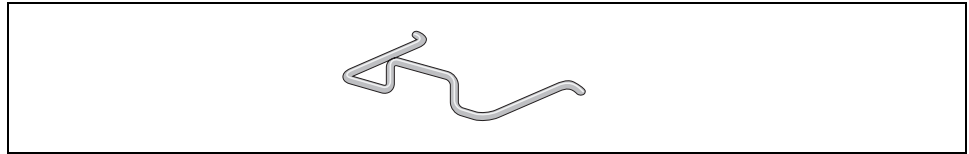

Figure 21. Power Cord Retaining Clip
1. Locate the power cord retaining clip, shown in Figure 21.